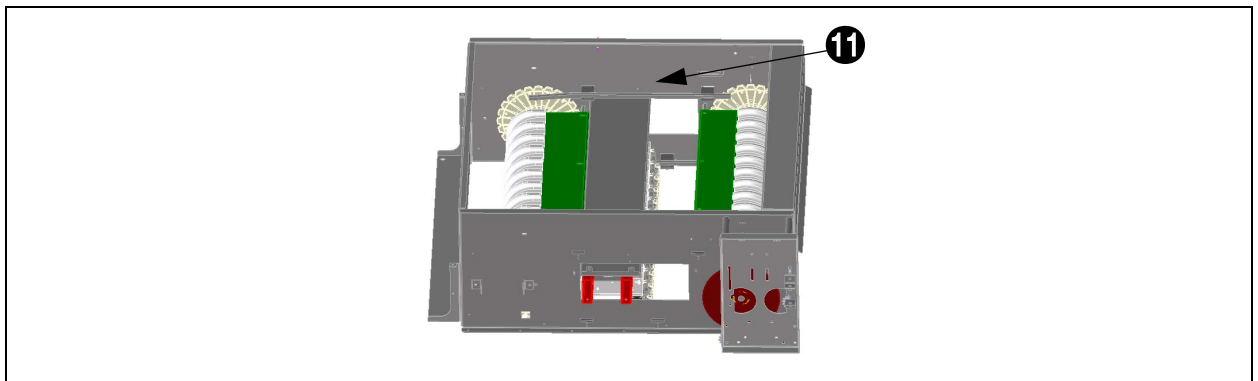
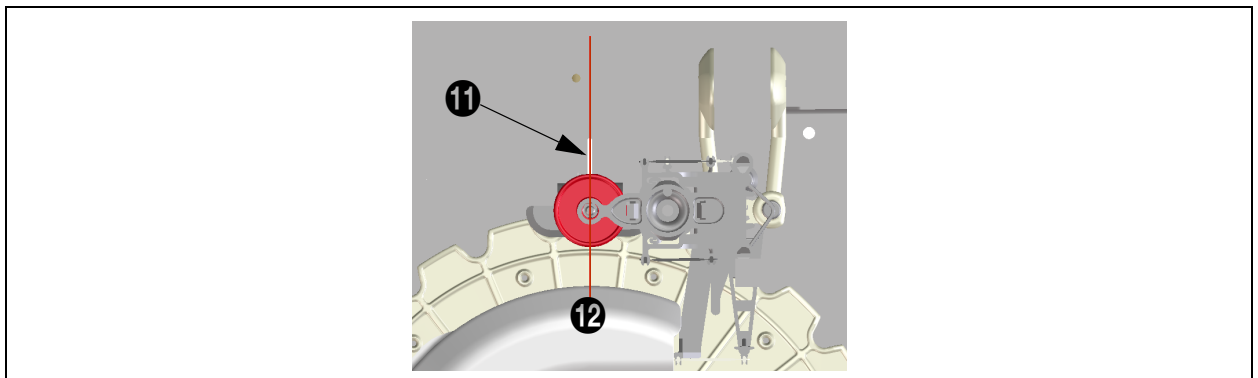

Fig. 89 - Mark in loadcell unit
Fig. 90 - Transport wheel in relation to marks
2. Set the centre of a transport wheel (12) even with the mark (11) made in the strip of the loadcell-unit , see fig. 89 and fig. 90.